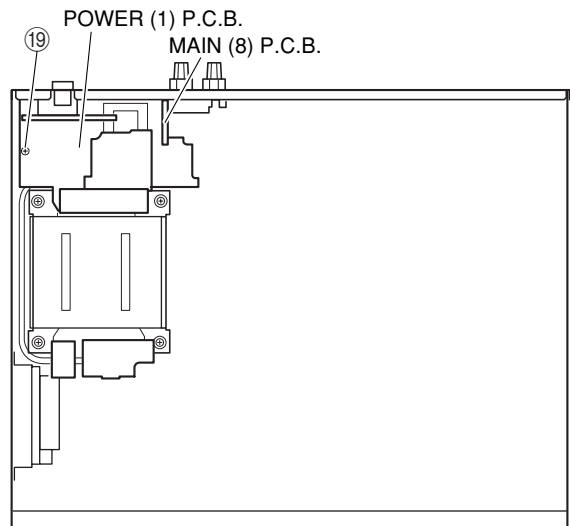

Fig. 7
- b. Remove 1 screw (13) and 4 screws (14). (Fig. 7)